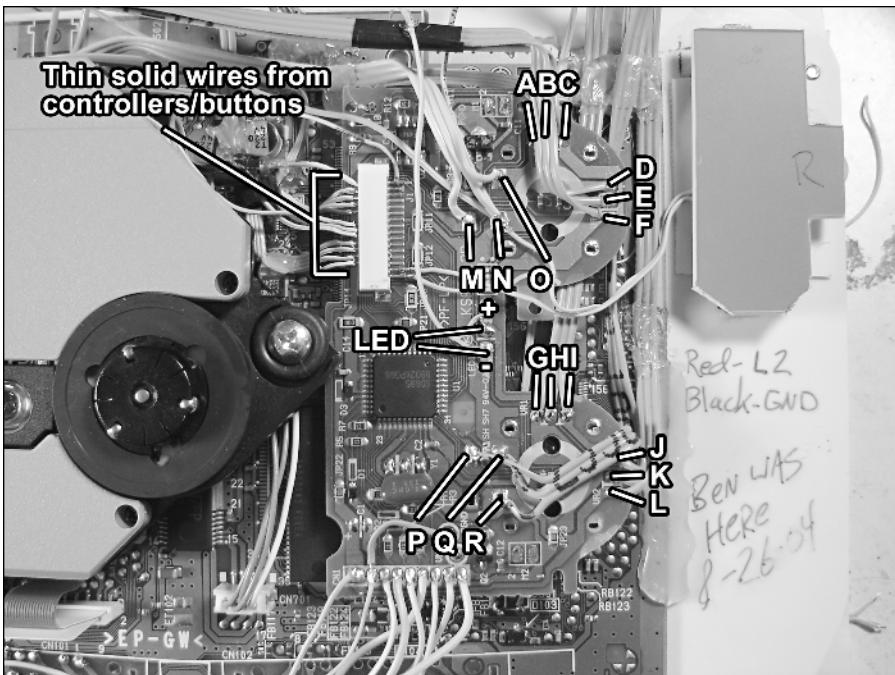
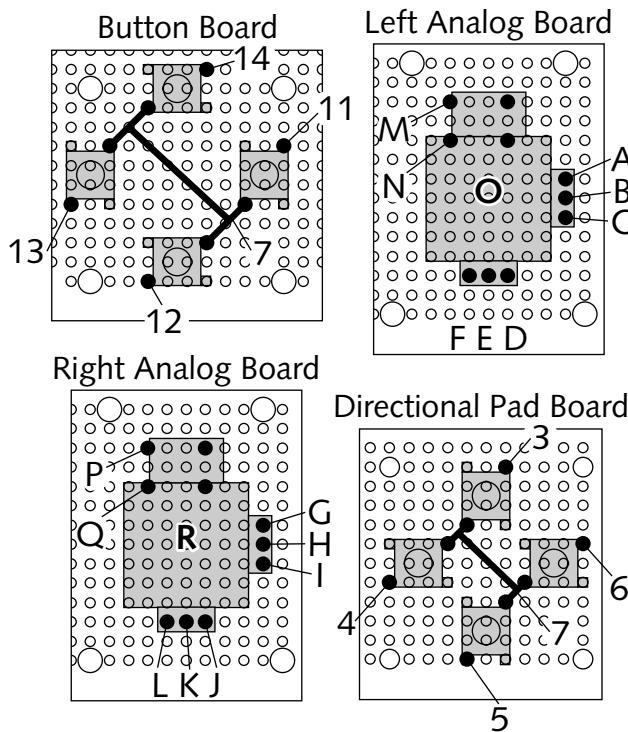

FIGURE 13-30: Placement of the controller board and pinouts.
FIGURE 13-31: Wiring connections on the backs of the four PC boards.
Take the controller board from the inside of the PSOne controller, and hot-glue it just to the right of the CD-ROM drive as shown in Figure 13-30. The edge of the controller board should touch the screw post under the CD-ROM drive.
Now it's time to connect the controller buttons to it. For everything but the analog sticks, you should use thin solid ultra ATA hard drive wire. Figure 13-31 is a drawing of how to connect these wires from the four PC boards in the front half of the case to the controller board shown in Figure 13-30. Note the ground connections going between the tact switches.
2. The connector on the controller board is meant to receive a flat ribbon cable. However, you can also insert thin solid wires as shown in Figure 13-30. Some models of PSOne controller boards have holes that you can solder the sixteen wires into.